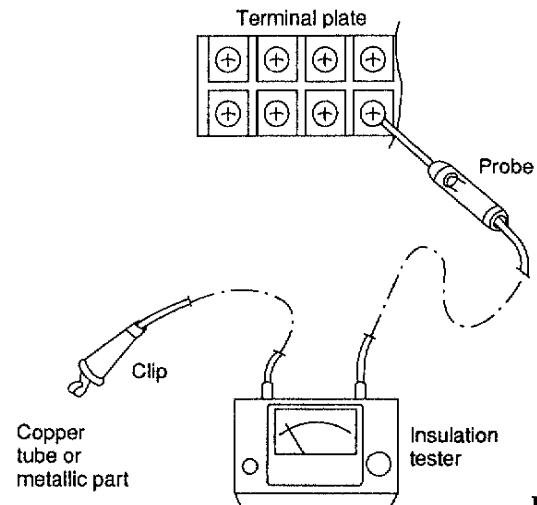

Fig. 2
In the case of RS2422B, measure the resistance by placing a probe on ① and then ② on the 4P terminal plate. (Fig. 2)
Clamp a metallic part of the unit with the lead clip of the insulation resistance tester and measure the resistance by placing a probe on ①, and then ② on the 2P terminal plate. (Fig. 2)